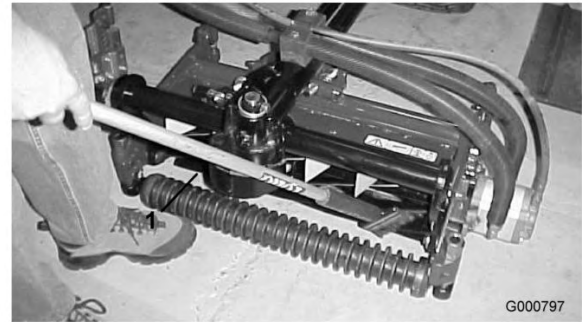

Figure 86
8. Apply lapping compound with a long handle brush (Toro Part No. 29-9100). Never use a short handled brush (Figure 86).